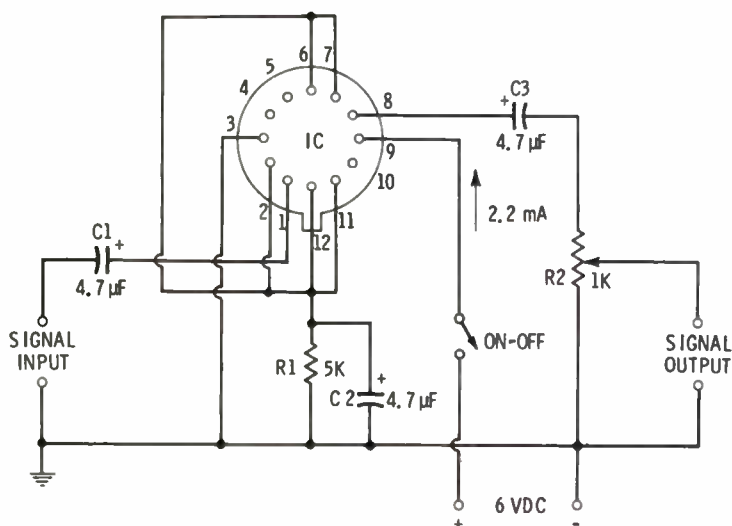
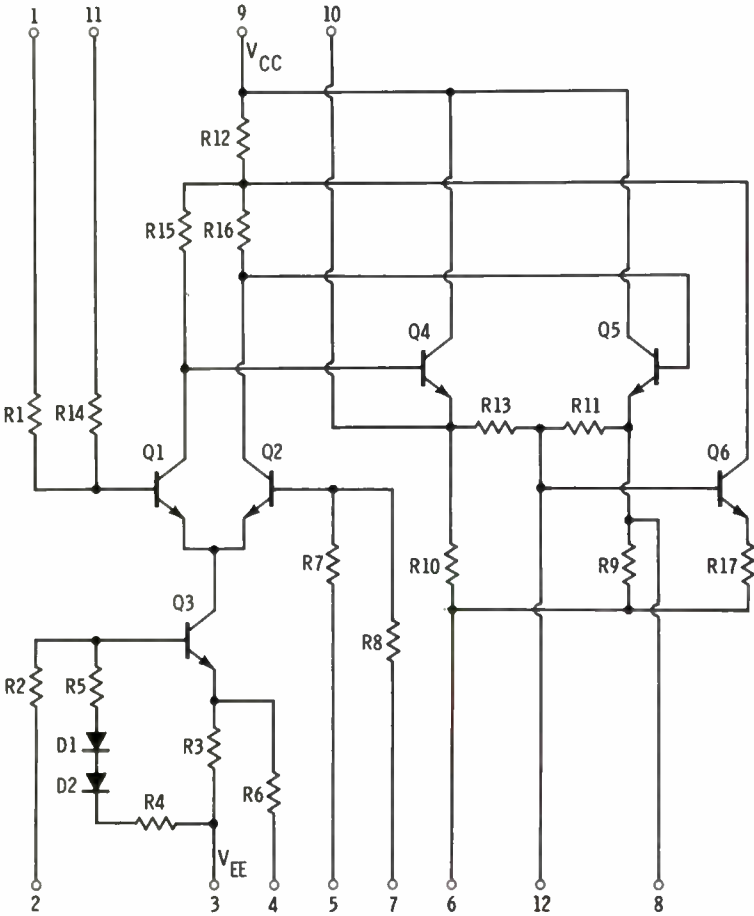
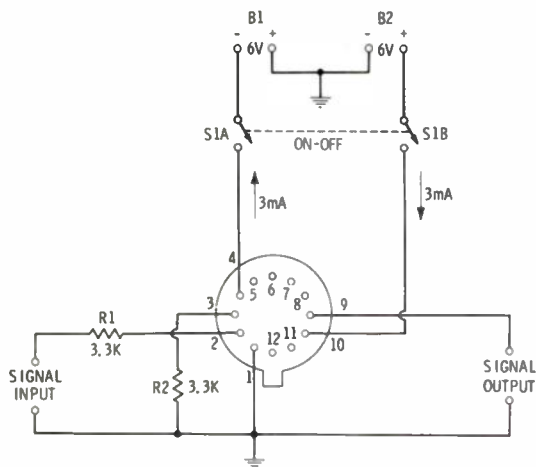

Fig. 3-3. Circuit of the simple audio preamplifier.
Fig. 3-4. Circuit of the RCA CA 3007 IC used in the preamplifier. (For base connections, see Fig. 1-13, Chapter 1.)
Fig. 4-3. Circuit of the high-gain preamplifier.
Fig. 3-1 is a view of the completed preamplifier with the IC plugged-in and the battery connected. Figs. 3-2A and 3-2B show the layout of components, and wiring; and Fig. 3-3 is the circuit diagram. For convenience in understanding the preamplifier circuit, Fig. 3-4 gives the internal circuit of the RCA CA3007 integrated circuit used in this project.
This preamplifier (Fig. 3-3) employs an RCA CA3007 IC and only five outboard components: capacitors C1, C2, and C3; resistor R1; and potentiometer R2. Response of the circuit is flat within 2 dB from 20 Hz to 20 kHz. When potentiometer R2 is set for maximum gain, the maximum signal-input voltage before output distortion begins is 0.04 volt rms, and the corresponding maximum signal-output voltage is 0.4 volt rms (this corresponds to an open-circuit voltage gain of 10). With a single 9-volt DC supply, the current drain is 22 mA under both zero-signal and maximum-signal conditions. Use of a transistor-type battery therefore is entirely feasible. The low-impedance output favors feeding the output signal into a low impedance line, which practically eliminates hum pickup. Placement of the gain control at the output, rather than the input, reduces the probability of potentiometer noise appearing in the output.
Fig. 3-4 shows the internal circuit of the CA3007. Note that this IC contains two identical direct-coupled amplifier stages (Q1 feeding Q4, and Q2 feeding Q5). Each output stage has emitter-follower output. Transistor Q3, diodes D1 and D2, and the associated resistors form the stabilizing current sink. Transistor Q6 and resistors R11, R12, R13, and R17 stabilize the quiescent operating voltage at the output terminals (8 and 10) against variations of temperature and supply voltage. An input signal may be applied to input transistor Q1 through terminal 1, while the input terminal (No. 7) of input transistor Q2 is AC-grounded. As a result, Q1 and Q2 drive Q4 and Q5 in push pull and constitute an amplifier-type input phase splitter.
In the preamplifier circuit (Fig. 3-3), the external jumper between IC terminals 6 and 12 connects R9 and R11 in parallel and R10 and R13 in parallel. This allows outboard resistor R1 to serve partially as a common-emitter bias resistor for output transistors Q4 and Q5. The output signal is taken from one emitter-coupled output transistor (Q5).
7. Wire the underside of the board (follow the wiring diagram in Fig. 3-3 and the pictorial diagram in Fig. 3-2B), and solder the leads of the battery clip to the DC-supply terminals above board. Note that the bottom view of the IC socket is given in the layouts, and that terminal 12 is identified by a dot on the Augat socket. For wiring, use a thin, insulated, stranded hookup wire; thicker wire is too large for the closely spaced IC socket ter-
Fig. 4-1 is an overall view of the completed preamplifier with the IC plugged in and batteries connected. Figs. 4-2A and 4-2B show the layout of components, and Fig. 4-3 is
This preamplifier (see Fig. 4-3) employs the CA3010 IC with only two outboard components—resistors R1 and R2. If a gain control is desired, a 1000-ohm potentiometer may be connected in the output circuit in the same way shown in Fig. 3-3. If the preamplifier is used without input and output coupling capacitors, its frequency response is flat within 1 dB from DC to 200 kHz. In some applications, however, both capaci-
8. Wire the underside of the board (follow the wiring diagram in Fig. 4-3 and the pictorial diagram in Fig. 4-2B). Note that the bottom view of the IC socket is given in the drawings, and that terminal 12 is identified by a dot on the top of the Augat socket. For wiring, use a thin, insulated, stranded hookup wire; thicker wire is too large for the closely spaced IC socket terminals. For those portions of the wiring that require no insulation (such as the common "ground" bus between SIGNAL INPUT and SIGNAL OUTPUT terminals from the bottom of R1 to socket terminal No. 1), use solid, tinned, No. 22 wire.